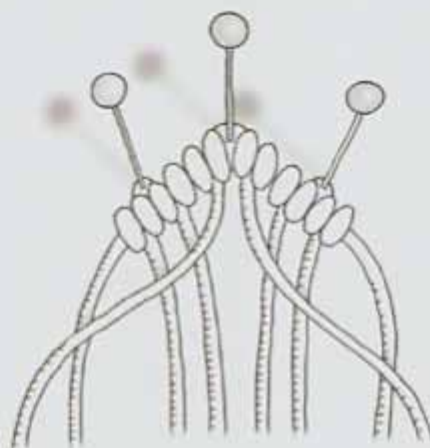

Fig. 1
3. Center the knots on the **AC** (Anchor Cord) and pin the middle **MTK** to the board. Pin through the closed loop on the top/back of the **MTK**. Pin the other 2 **MTKs** to the board so that the three knots form an inverted "V" shape with the middle knot at the top point (see Figure 1).